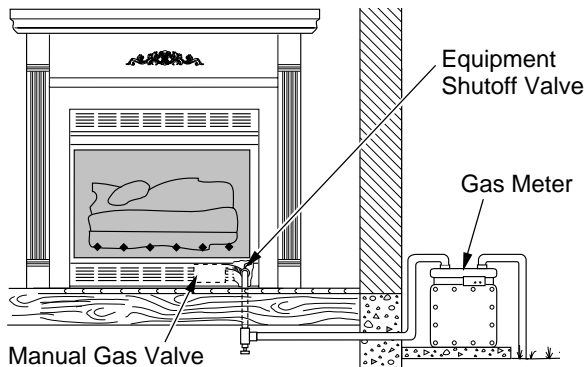

Figure 28 - Checking Gas Joints for Natural Gas Fireplace
3. Check all joints from gas meter for natural gas or propane/LP supply to equipment shutoff valve for propane/LP gas (see Figures 28 or 29, page 18). Apply noncorrosive leak detection fluid to all joints. Bubbles forming show a leak.
4. Check all joints from equipment shutoff valve to gas valve (see Figure 28 or 29). Apply noncorrosive leak detection fluid to all joints. Bubbles forming show a leak.